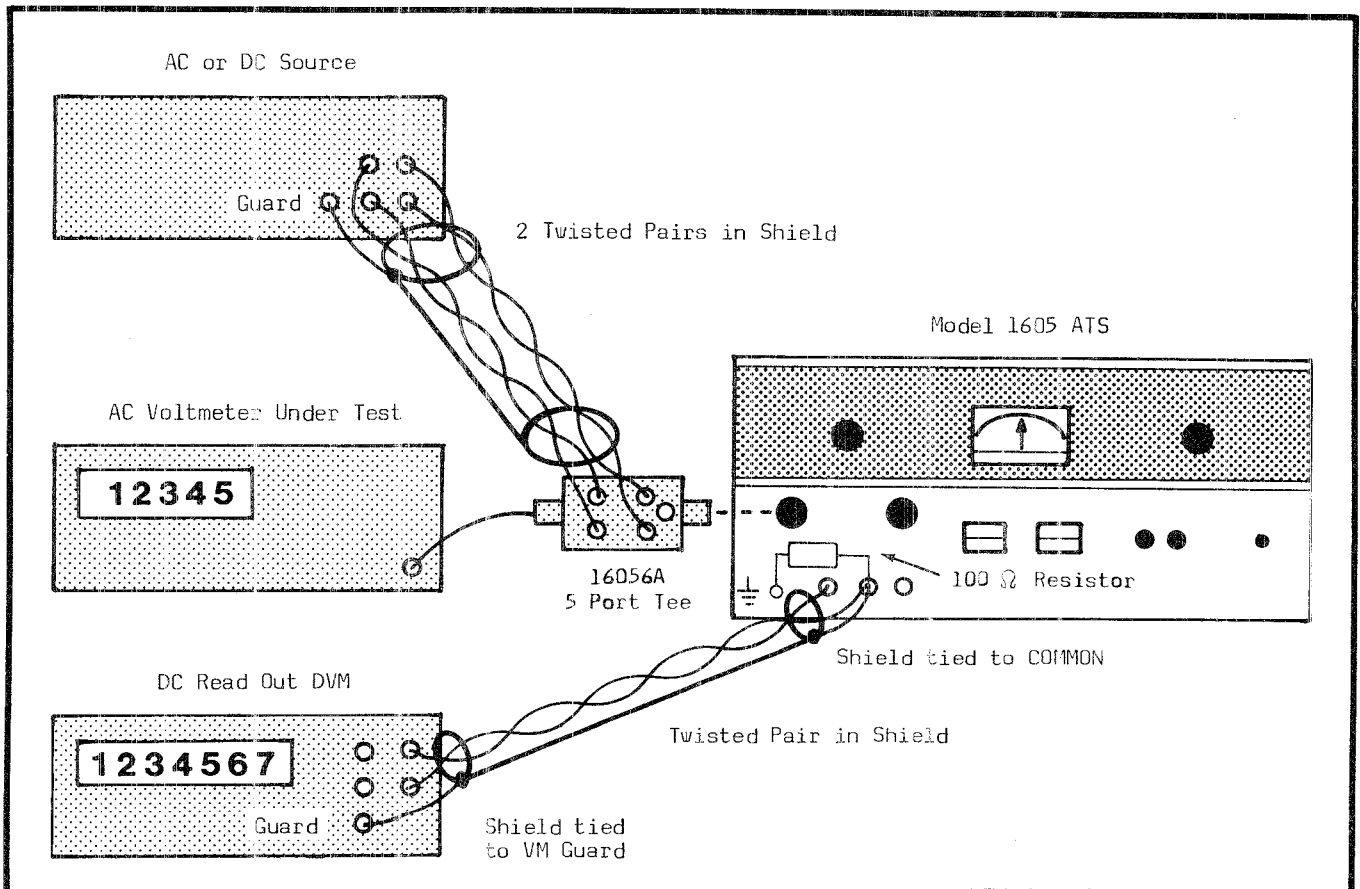
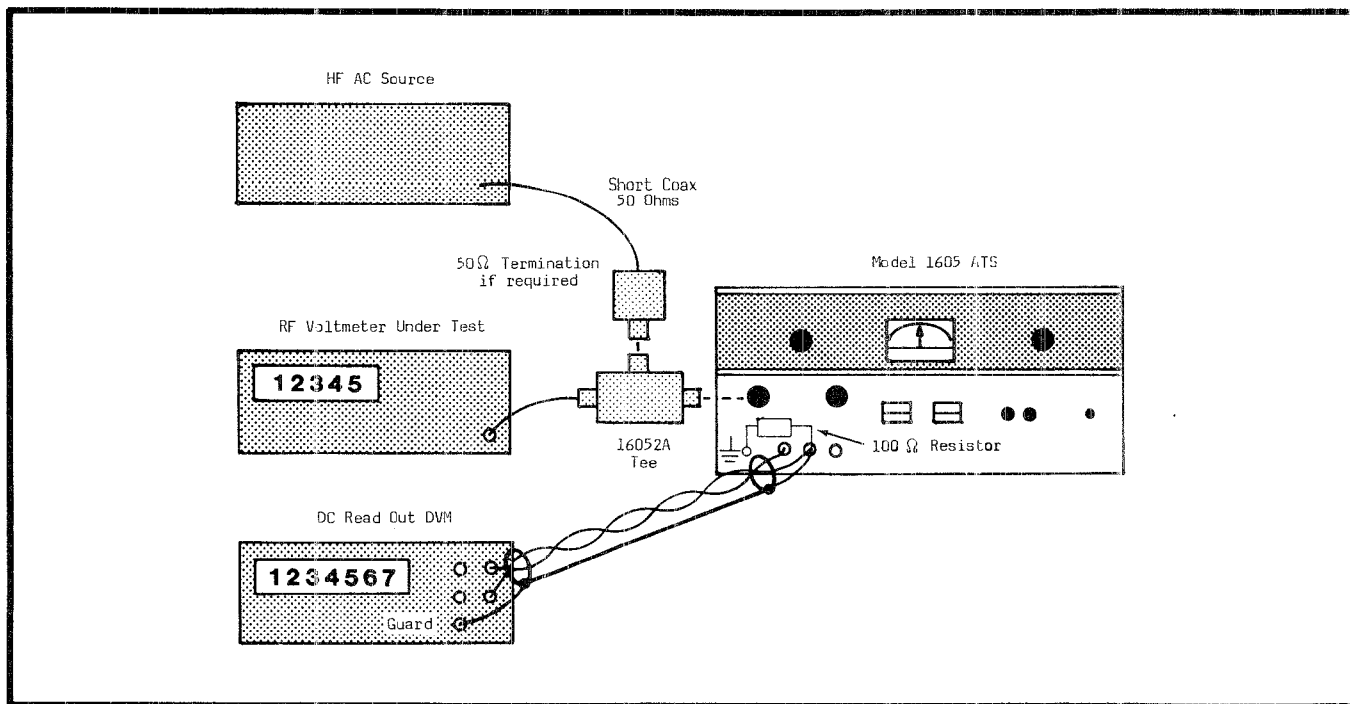

Figure 3-5. AC Calibrator Accuracy Enhancement Test Set-Up
Figure 3-6. AC Voltage Source Accuracy Enhancement > 1 MHz
c. See Figure 3-5 and 3-6 for the test set-up. Always use the shortest and lowest capacitance interconnections between the tee and the ac voltmeter, filter, or amplifier under test. Connect the ac voltmeter guard to the ac input LO.
a. To make calibration adjustments on an ac voltmeter, establish an amplitude and frequency point using the Enhanced Accuracy of an AC Voltage Source procedure outlined in paragraph 3-47. If a precise amplitude point is required use the procedure of paragraph 3-46 entitled Calibrating a Stable AC Voltage Source. Use the test set-up of Figure 3-5 for frequencies to 1 MHz and Figure 3-6 for frequencies above 1 MHz.